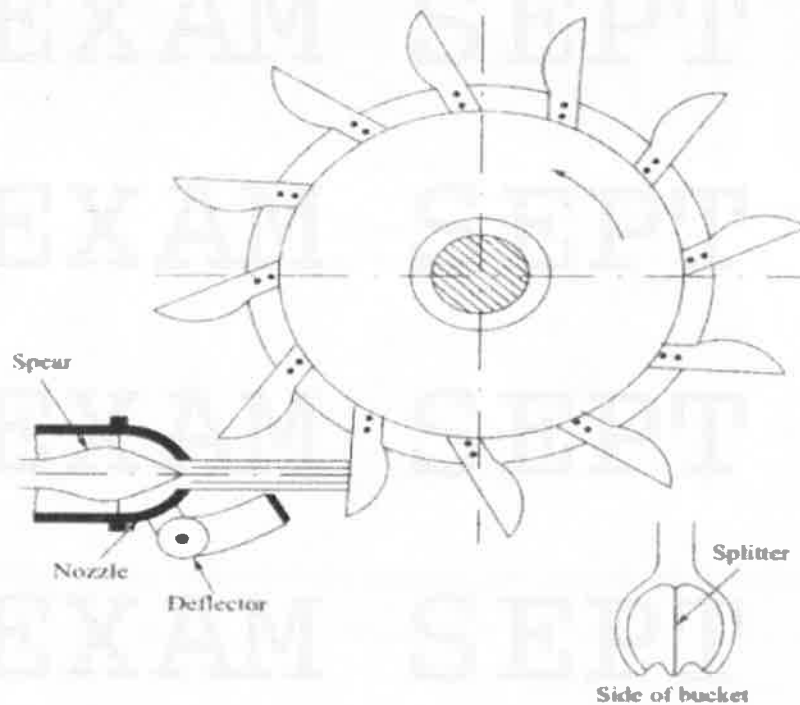

FIGURE Q2b
- b. **FIGURE Q2b** shows the details of a Pelton wheel proposed for a hydropower project. For the design of the Pelton wheel, the following requirements are given: